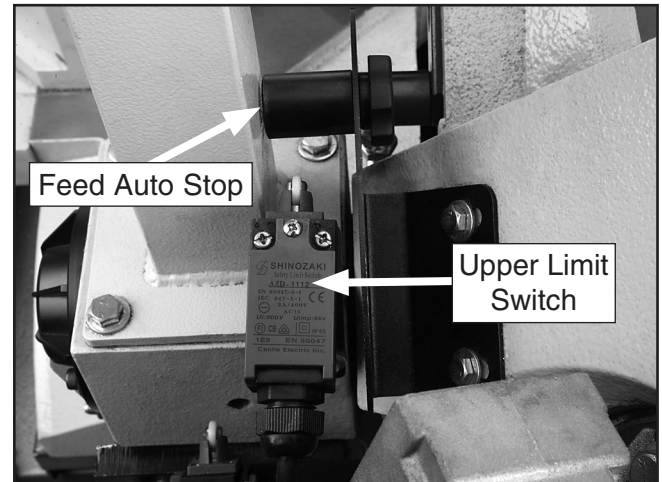

Figure 65. Feed auto stop.
3. Loosen the auto stop knob, adjust the position of the auto stop so it depresses the upper limit switch button, then re-tighten the auto stop knob. The saw bow will now automatically stop when raised to this level (**Figure 65**).